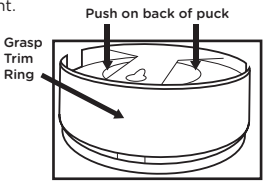

Figure 2
- Remove trim ring by firmly grasping ring and then firmly pushing on back side of puck as shown in **Figure 2**.